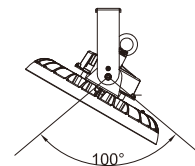

Figure 7
Step4 After installation, connect the wire of the fixture to the mains according to local wiring rules, ensure the connection is stable and make good protection on the connection. By adjusting the brackets screws, users can adjust 50° to the left or right vertically. (Figure 7)